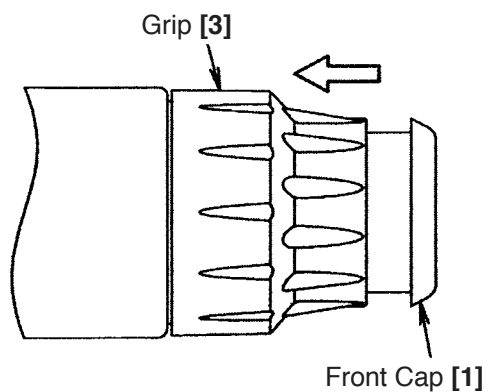
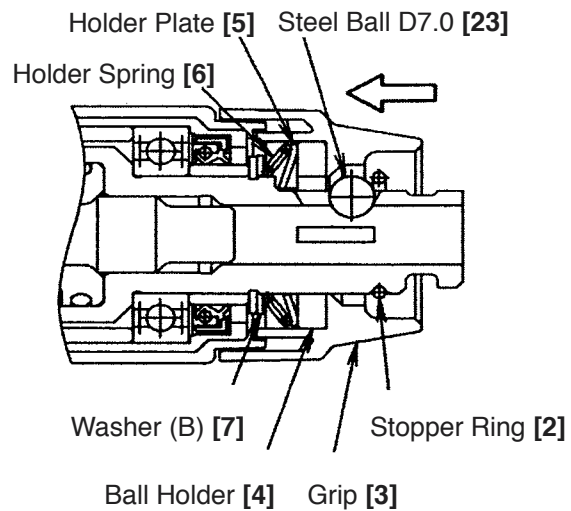

Fig. 17
Fig. 18
(3) Disassembly of the tool retainer
Slide the Grip [3] fully in the arrow direction as shown in Fig. 17 and remove the Front Cap [1]. Pulling the Grip [3] as shown in Fig. 18, remove the Stopper Ring [2] with a retaining ring puller. Then the Grip [3], Ball Holder [4], Steel Ball D7.0 [23], Holder Plate [5], Holder Spring [6] and Washer (B) [7] can be removed from the Cylinder [24].